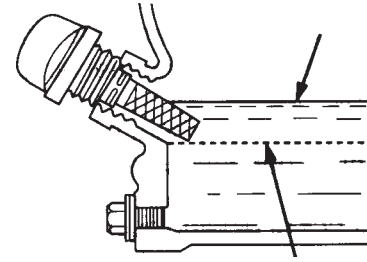

Figure 7. Engine Oil Dipstick (Oil Level)
4. If the oil level is low (Figure 7), fill to the edge of the oil filler hole with the recommended oil type (Table 3). Maximum oil capacity is 400 cc.